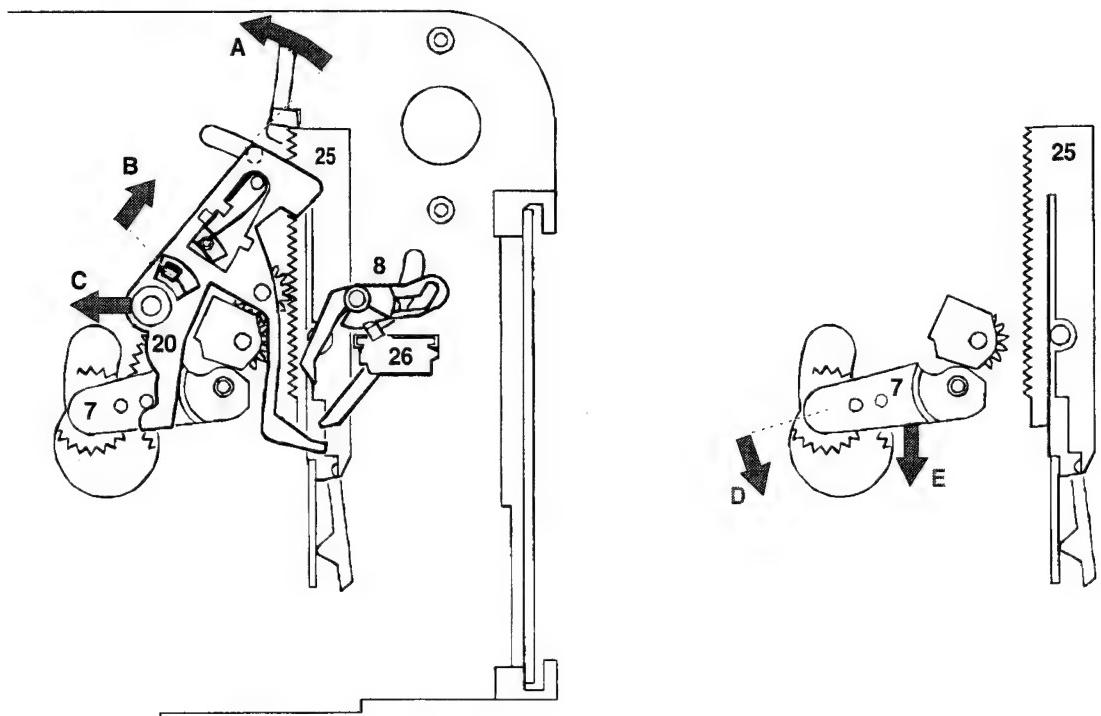

Fig. 7
12.2 Turn switching lever acc. fig.7-A